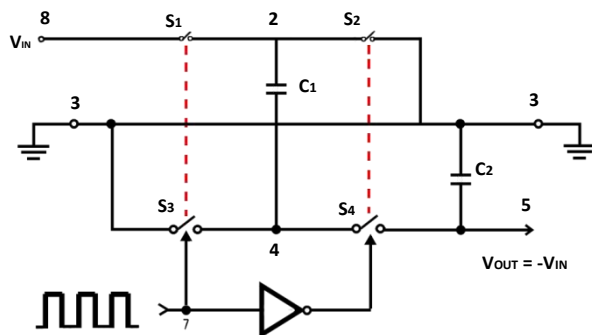
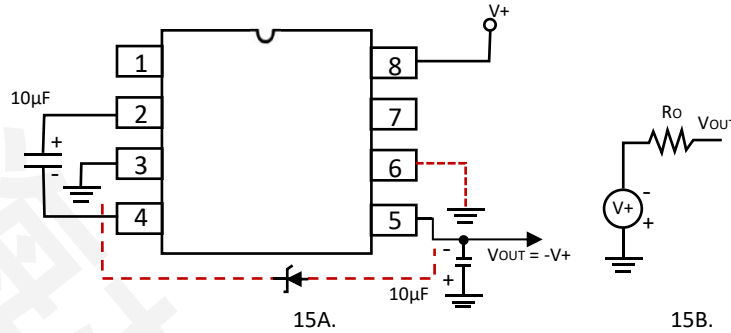
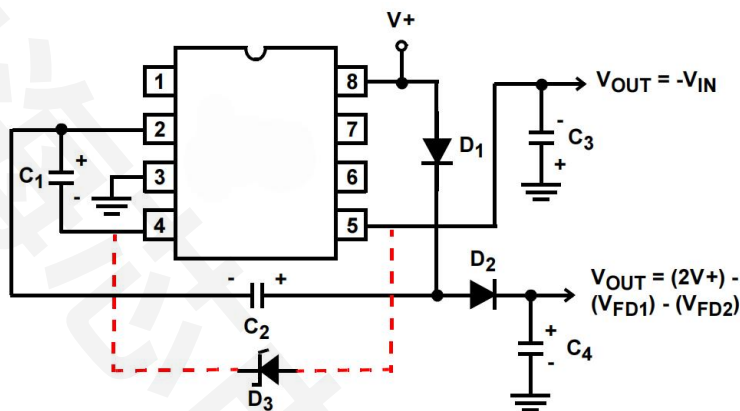
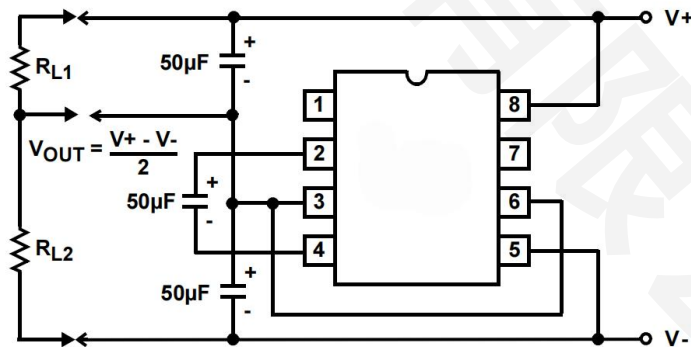

FIGURE 14. IDEALIZED NEGATIVE VOLTAGE CONVERTER
FIGURE 15. SIMPLE NEGATIVE CONVERTER AND ITS OUTPUT EQUIVALENT
FIGURE 19. COMBINED NEGATIVE VOLTAGE CONVERTER AND POSITIVE DOUBLER
FIGURE 20. SPLITTING A SUPPLY IN HALF
The ICL7660SIPAZ-HX contain all the necessary circuitry to complete a negative voltage converter, with the exception of two external capacitors, which may be inexpensive $10\mu F$ polarized electrolytic types. The mode of operation of the device may best be understood by considering Figure 14, which shows an idealized negative voltage converter. Capacitor C_1 is charged to a voltage, V_+ , for the half cycle, when switches S_1 and S_3 are closed. (Note: Switches S_2 and S_4 are open during this half cycle). During the second half cycle of operation, switches S_2 and S_4 are closed, with S_1 and S_3 open, thereby shifting capacitor C_1 to C_2 such that the voltage on C_2 is exactly V_+ , assuming ideal switches and no load on C_2 . The ICL7660SIPAZ-HX approach this ideal situation more closely than existing non-mechanical circuits.
In the ICL7660SIPAZ-HX, the four switches of Figure 14 are MOS power switches; S1 is a P-Channel device; and S2, S3 and S4 are N-Channel devices. The main difficulty with this approach is that in integrating the switches, the substrates of S3 and S4 must always remain reverse biased with respect to their sources, but not so much as to degrade their “ON” resistances. In addition, at circuit start-up, and under output short circuit conditions ($V_{OUT} = V+$), the output voltage must be sensed and the substrate bias adjusted accordingly. Failure to accomplish this would result in high power losses and probable device latch-up.
where V1 and V2 are the voltages on C1 during the pump and transfer cycles. If the impedances of C1 and C2 are relatively high at the pump frequency (see Figure 14) compared to the value of RL, there will be a substantial difference in the voltages, V1 and V2. Therefore it is not only desirable to make C2 as large as possible to eliminate output voltage ripple, but also to employ a correspondingly large value for C1 in order to achieve maximum efficiency of operation.
The majority of applications will undoubtedly utilize the ICL7660SIPAZ-HX for generation of negative supply voltages. Figure 15 shows typical connections to provide a negative supply where a positive supply of +1.5V to +12V is available. Keep in mind that pin 6 (LV) is tied to the supply negative (GND) for supply voltage below 3.5V.
The output characteristics of the circuit in Figure 15 can be approximated by an ideal voltage source in series with a resistance as shown in Figure 15B. The voltage source has a value of $-(V+)$. The output impedance (R_O) is a function of the ON resistance of the internal MOS switches (shown in Figure 14), the switching frequency, the value of C_1 and C_2 , and the ESR (equivalent series resistance) of C_1 and C_2 . A good first order approximation for R_O is shown in Equation 2:
Figure 19 combines the functions shown in Figure 15 and Figure 18 to provide negative voltage conversion and positive voltage doubling simultaneously. This approach would be suitable, for example, for generating +9V and -5V from an existing +5V supply. In this instance, capacitors C1 and C3 perform the pump and reservoir functions, respectively, for negative voltage generation, while capacitors C2 and C4 are pump and reservoir, respectively, for the doubled positive voltage. There is a penalty in this configuration which combines both functions, however, in that the source impedances of the generated supplies will be somewhat higher, due to the finite impedance of the common charge pump driver at pin 2 of the device.
The bidirectional characteristics can also be used to split a high supply in half, as shown in Figure 20. The combined load will be evenly shared between the two sides, and a high value resistor to the LV pin ensures start-up. Because the switches share the load in parallel, the output impedance is much lower than in the standard circuits, and higher currents can be drawn from the device. By using this circuit, and then the circuit of Figure 15, +15V can be converted, via +7.5 and -7.5, to a nominal -15V, although with rather high series output resistance ($\sim 250\Omega$).